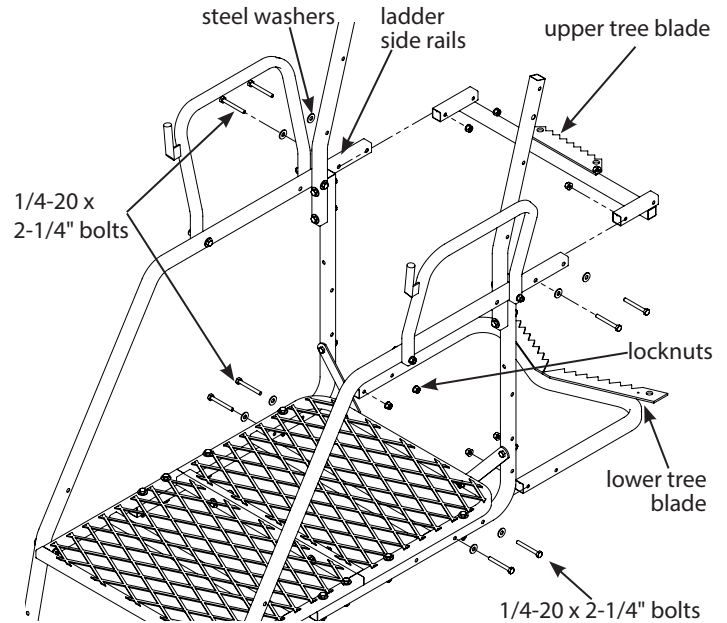

Figure 4
6. Attach the upper tree blade (10162) to the ladder side rails using (4) provided 1/4-20 x 2-1/4" bolts, locknuts and steel washers. **SEE FIGURE 4.**
7. Attach the lower tree blade (10164) to the inside of the platform support rails using (4) provided 1/4-20 x 2-1/4" bolts, locknuts and steel washers. **SEE FIGURE 4.**